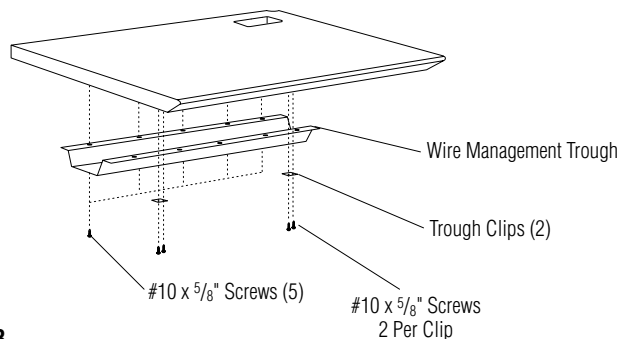

Figure 3
11. Position the mounting holes of the wire management trough over the pre-drilled holes in the worksurface. Secure the trough to the worksurface with #10 x 5/8" screws. Do not over tighten screws. From the underside of worksurface, position trough clips over the pre-drilled holes in the worksurface and secure with two #10 x 5/8" screws per clip (Figure 3).